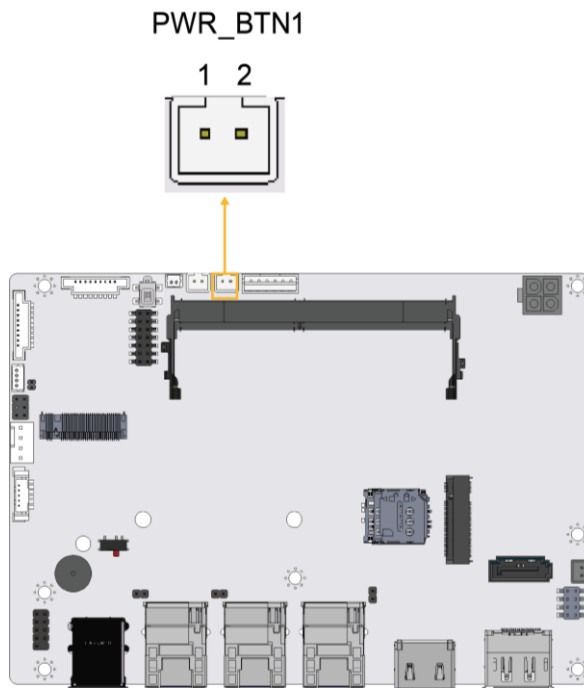

Figure 4-7: Power Button Connector Location
- CN Location:** See **Figure 4-7**